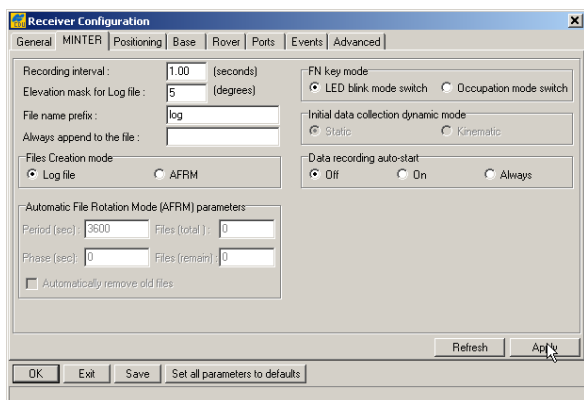

Figure 3-16. Receiver Configuration – MINTER Tab
5. Click **Configuration ► Receiver**, and then the **MINTER** tab. Set the following parameters, and click **Apply** (Figure 3-16). See the following pages for descriptions of these parameters.